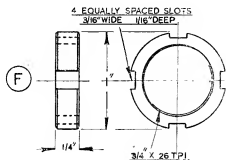

Fig. 6
The Locking Collar (F). This collar, which is shown in Fig. 6, serves to clamp the sleeve (B) in place in the turret.